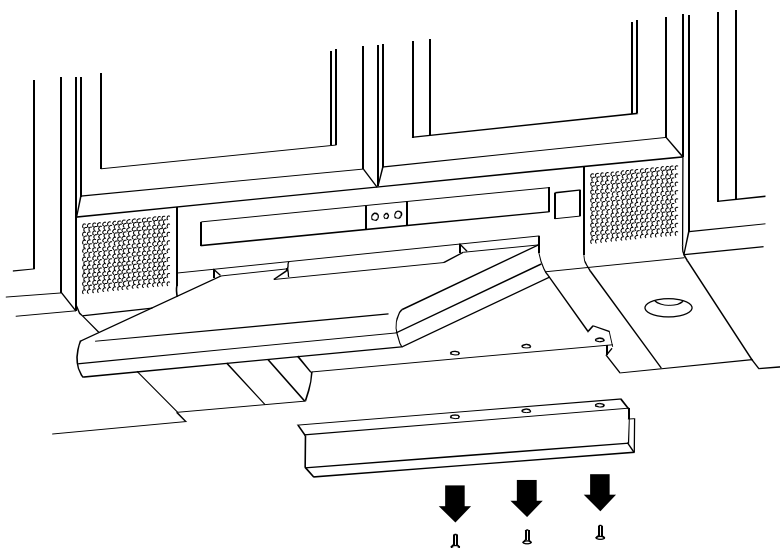

Figure 4-1 Removing the cable tray
- Verify how many connections are routed to the back panel (may include: TV coaxial cable, telephone/modem, ethernet, audio and video, security, 2 USB connections on bottom panel. Refer to Figure 4.1 below.)
1. At the bottom rear of the unit, remove the cable tray (3 phillips screws) (Figure 4-1).